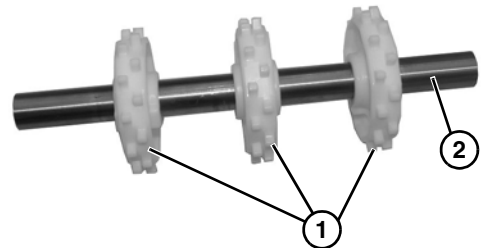

Figure 53
2. Remove three sprockets (**Figure 53, item 1**) off of shaft (**Figure 53, item 2**).